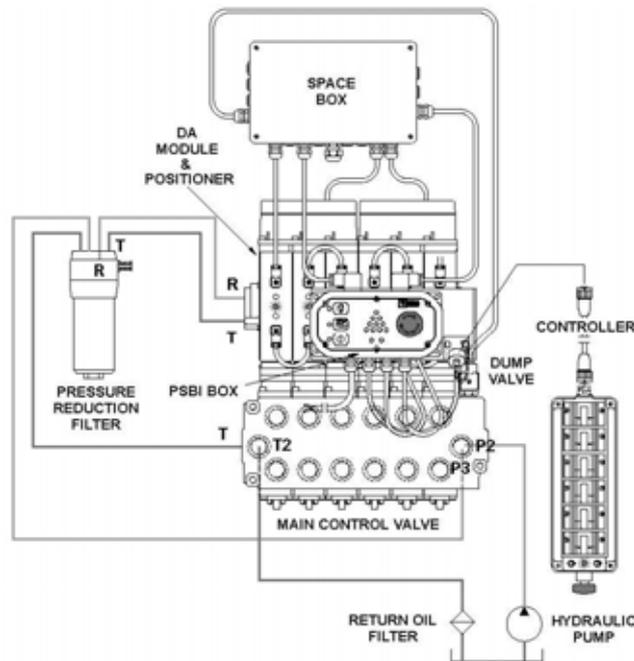

Figure 25 CombiDrive Remote Control System
98. The CombiDrive remote control system consists of the following components (Figure 25):